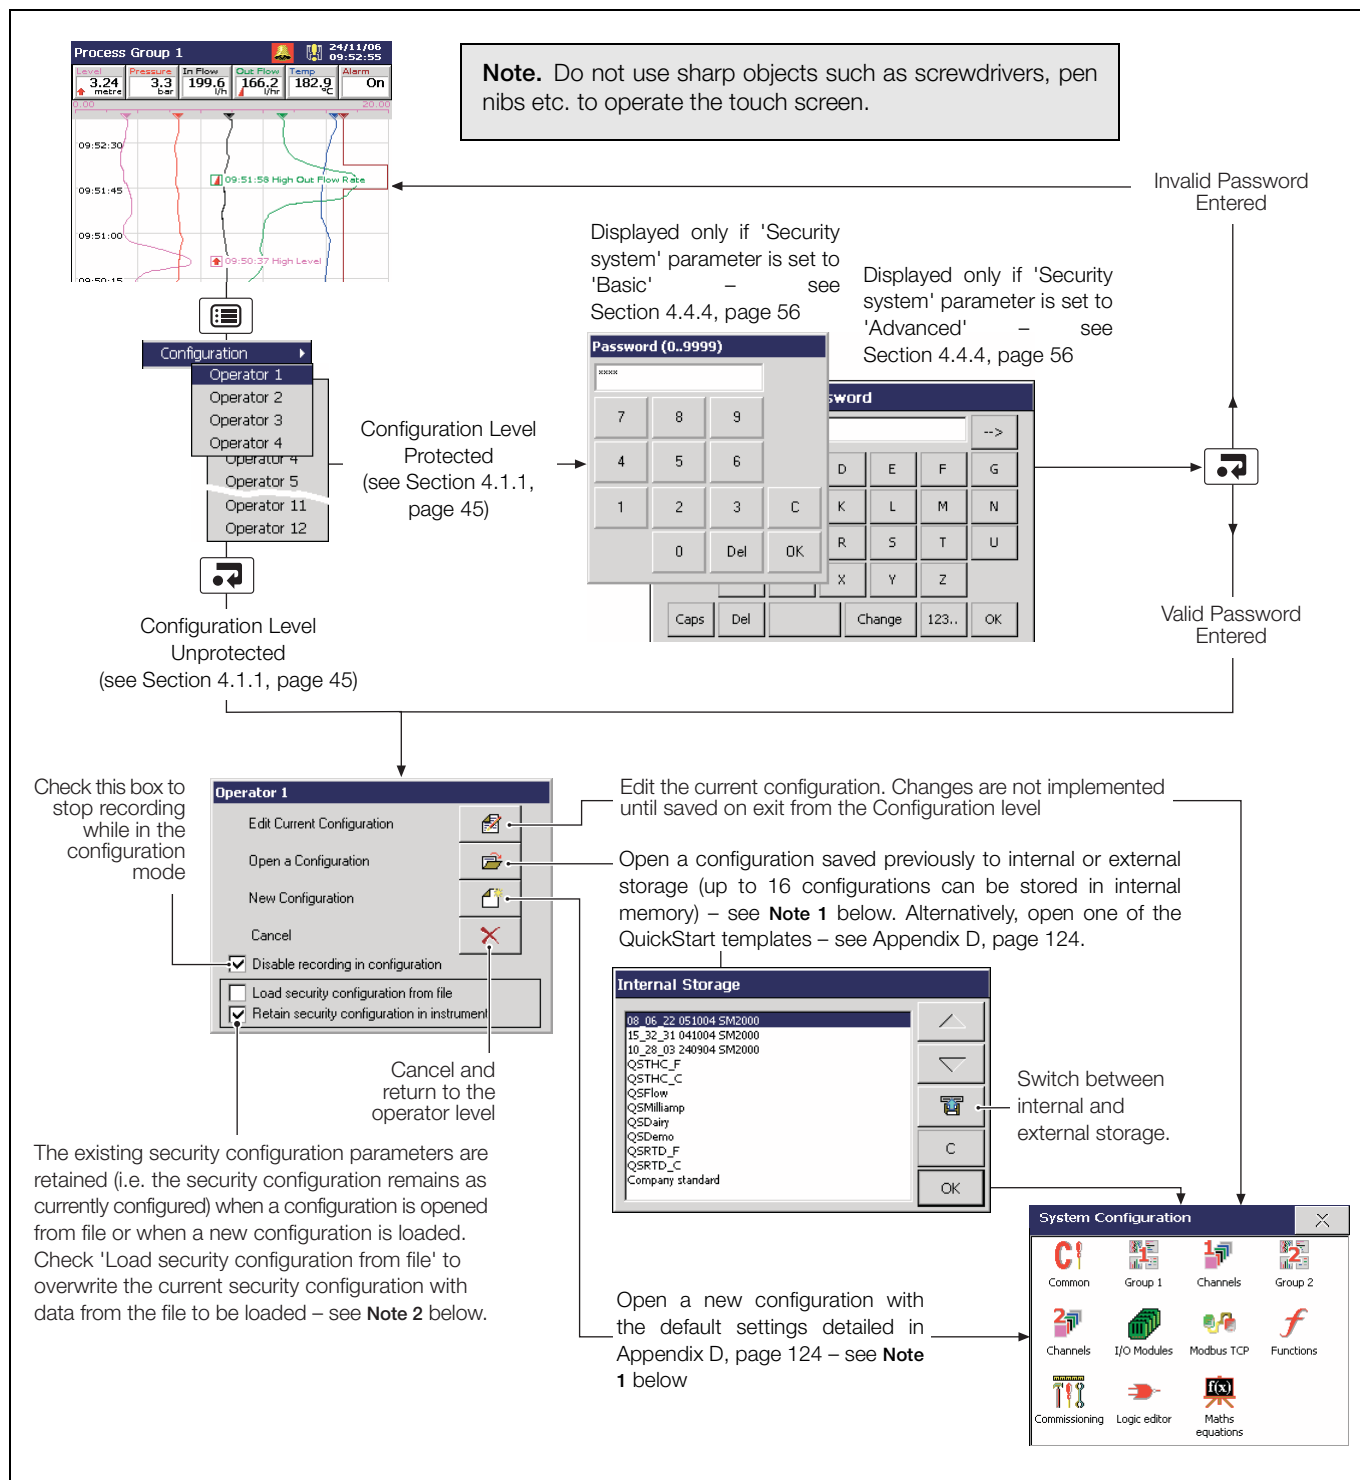

Fig. 4.1 Accessing the Configuration Level
The Configuration level cannot be accessed until the correct password has been entered – see Fig. 4.1, page 46.
4.1.3 Configuration Level Access – Figs. 4.1 and 4.2
- Access the Configuration Level – see Fig. 4.1, page 46.
- Make changes to parameters as detailed in Figs. 4.1 and 4.3.
- The date and time cannot be adjusted if recording is enabled during configuration, i.e the 'Disable recording in configuration' check box is **not** ticked on entry to the Configuration level – see Fig. 4.1, page 46.